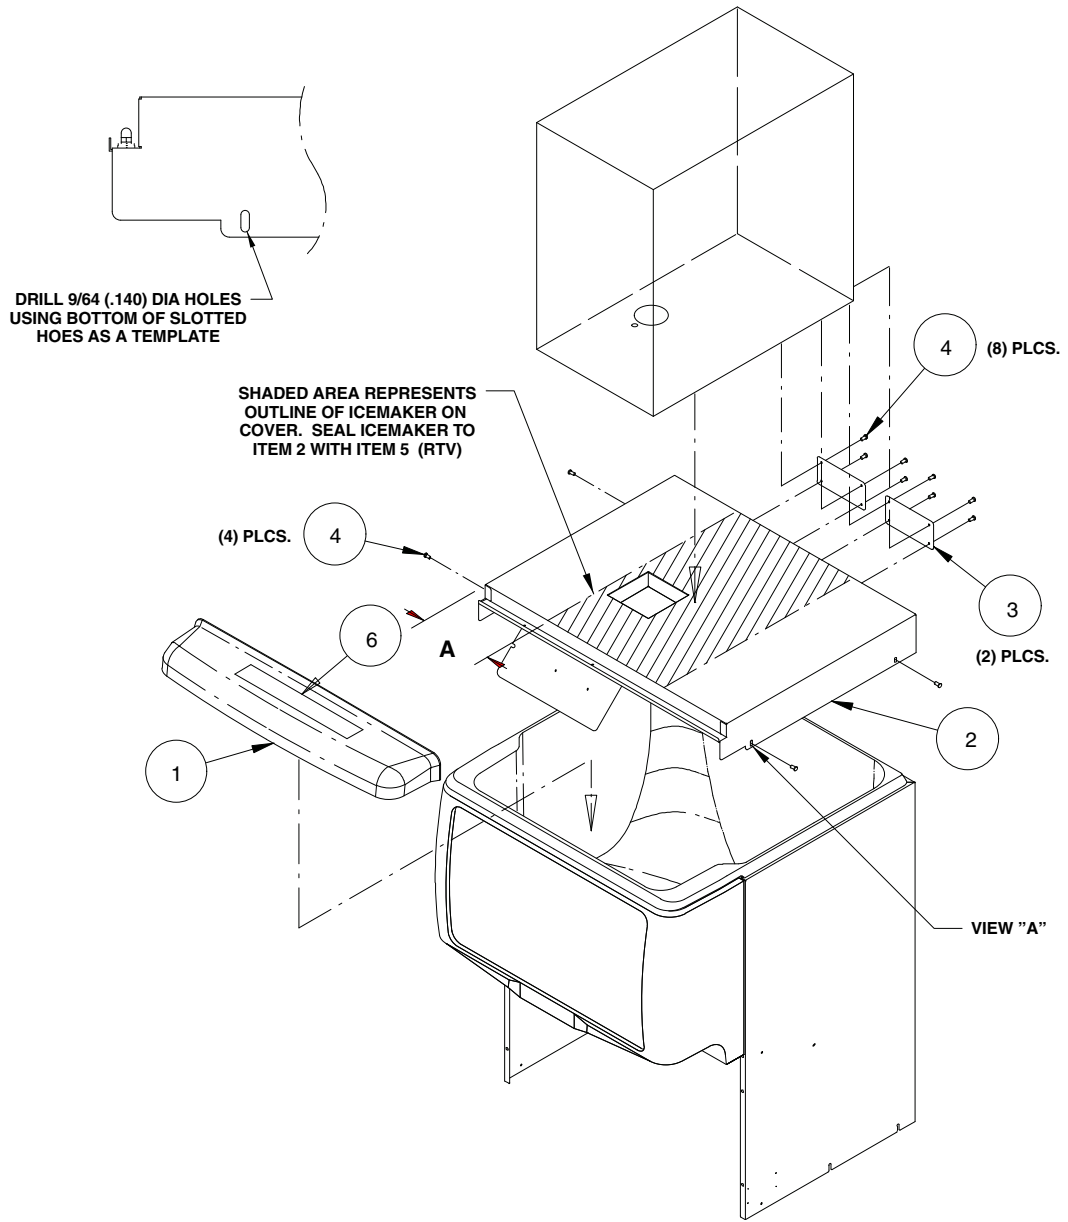
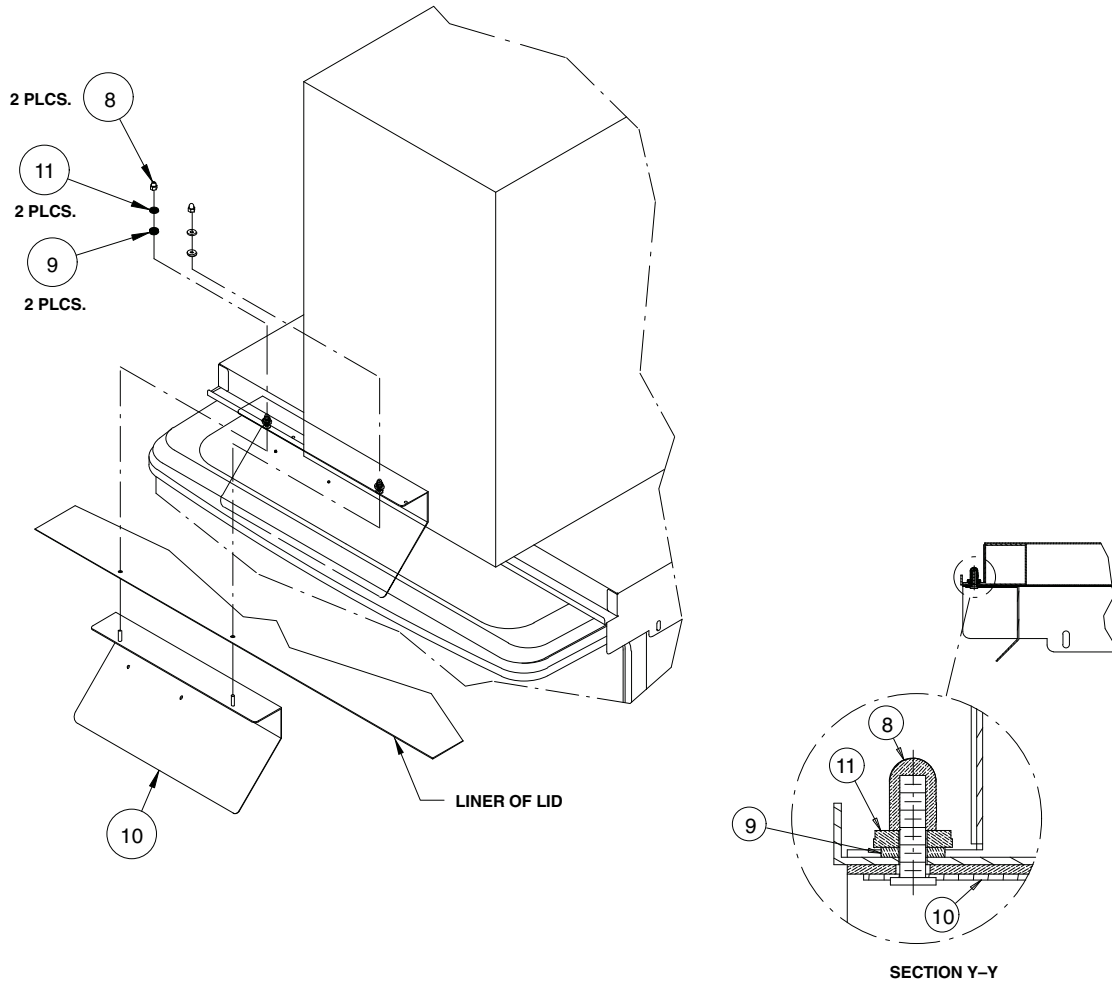

Figure 1.
Figure 2
Perform the following procedure to install the adapter kit. Refer to Figure 1 and Figure 2 while performing this procedure.
6. Place (2) sealing washers over studs (item 9) and (2) flat washers (Item 11), then fasten in place with (2) plastic acorn nuts (item 8). (See Figure 2.)
8. Using the slotted holes in the lid as a template, drill four (4) 0.140" diameter (9/64") holes at the bottom of the slots (see detail A). **Use extreme care not to drill into the hopper.** Fasten the lid to the dispenser with four (4) #8 sheet metal screws, two on each side.